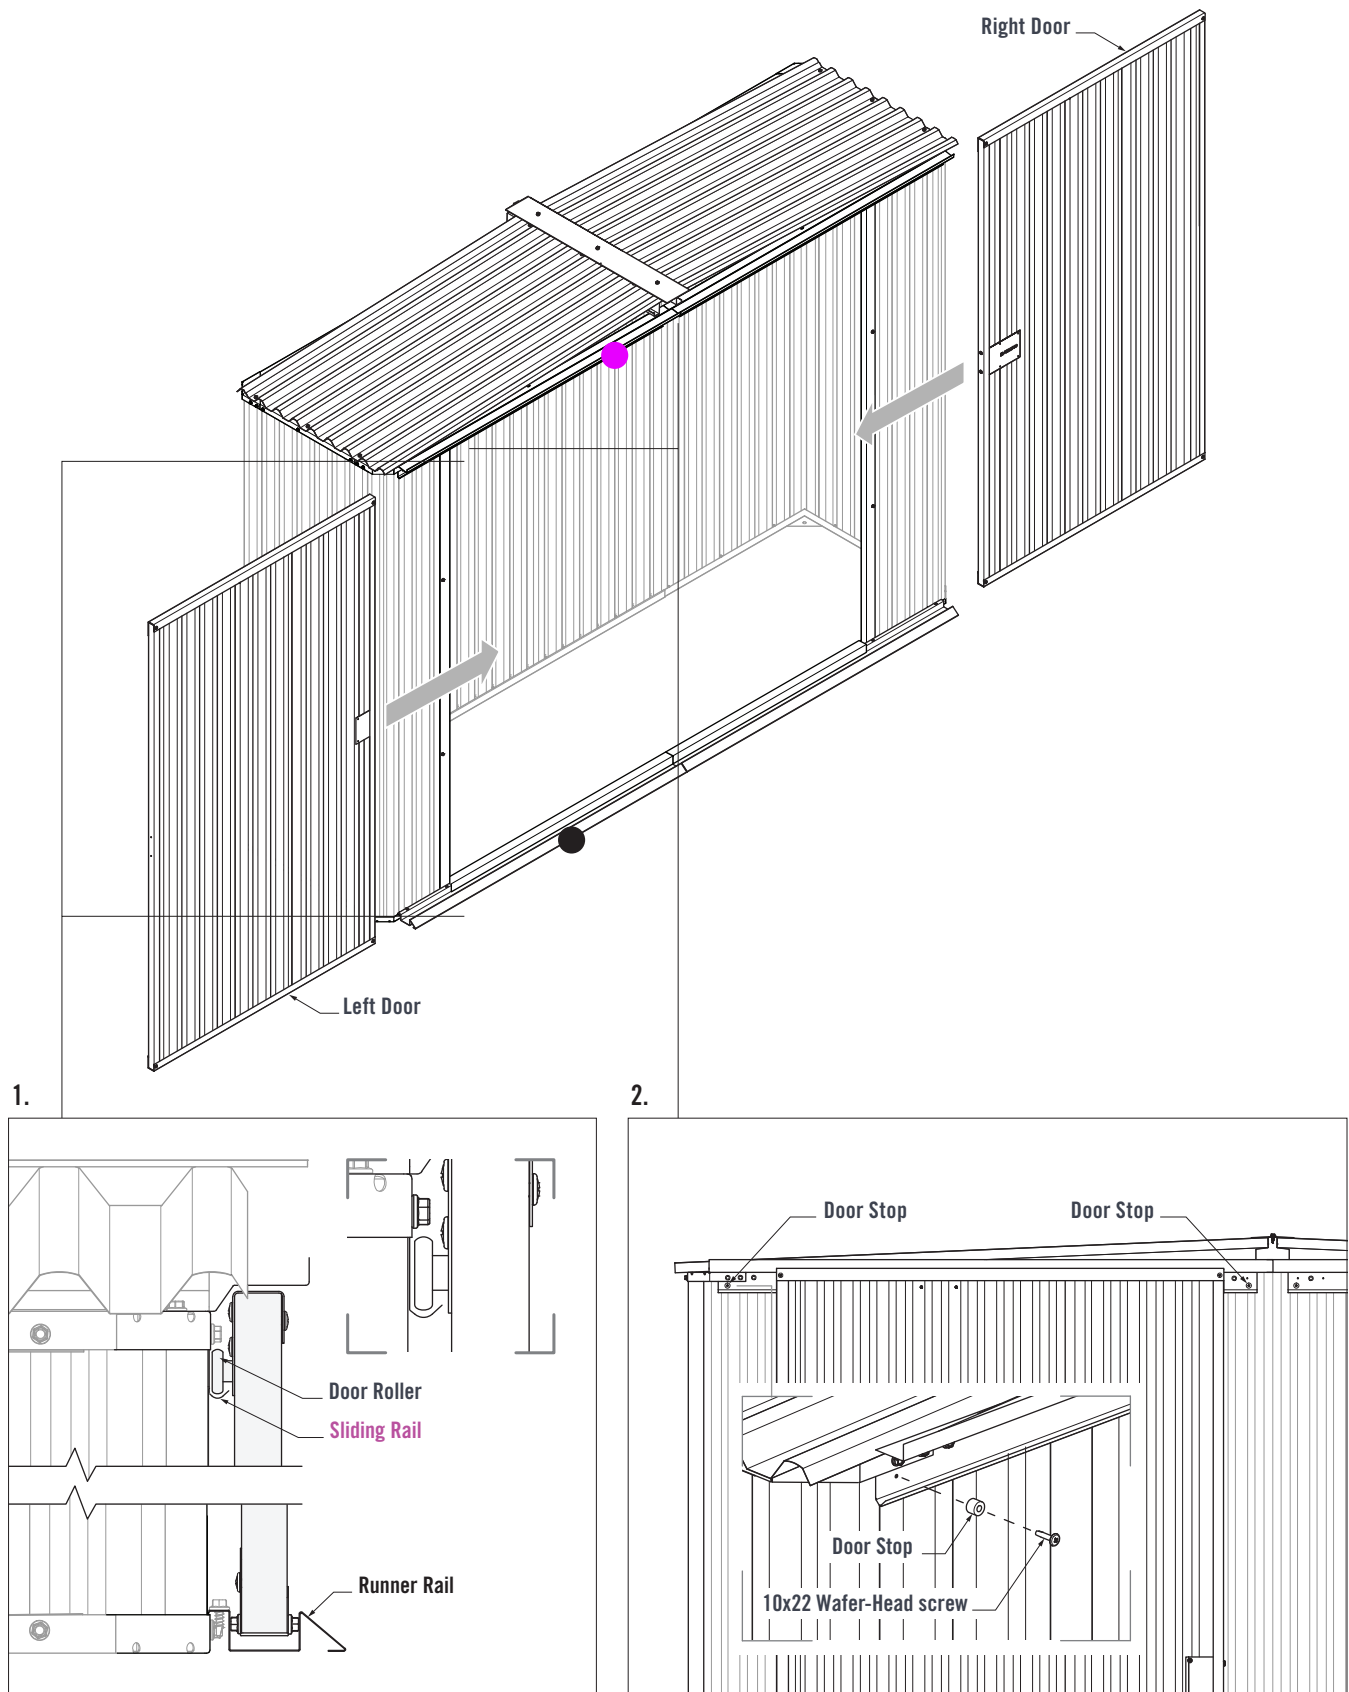

FIGURE 9.6
1. Slide the Left and Right Doors into the Sliding and Runner Rails. The Door Roller should fit into the Sliding Rail at the top. The bottom of the Door should fit into the Runner Rail at the bottom (Figure 9.6).
2. Fasten Door Stops through the pilot holes at both ends of the Sliding Rail with 10x22 Wafer-Head Screws. Fasten two more Door Stops to the other Sliding Rail, so that a Door Stop is installed at both ends of both Sliding Rails (Figure 9.6).